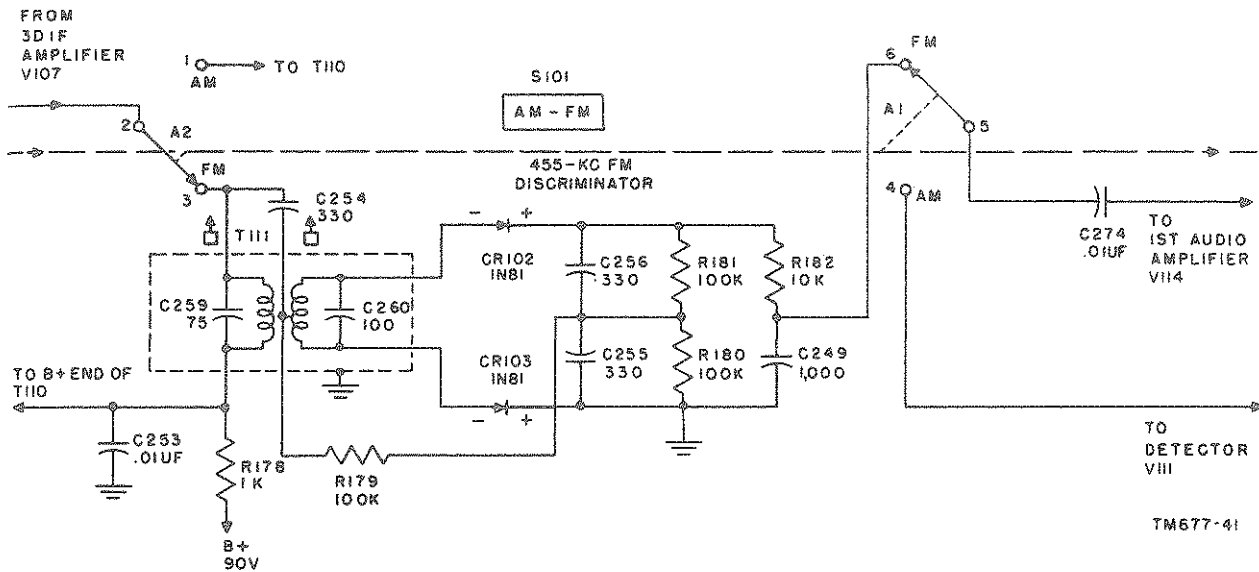

Figure 41. Radio Receiver R-895/PRD-1, functional diagram of 455-kc fm discriminator circuit.
c. For 455-kc fm operation, the if. path is similar to that described in b above except that transformers T105, T107, and T109 provide the interstage coupling. The fm output of V107 is transformer-coupled through T111 (fig. 41) to the 455-kc fm discriminator circuit.
(fig. 41)